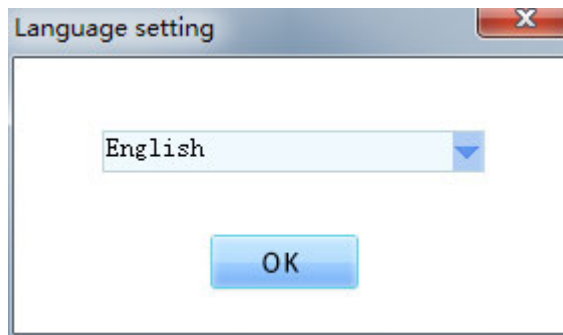

Fig 3-1 Language Selection
1. User double-clicks EuraDV.exe or desktop shortcut. First use will popup language selection window(Fig 3-1);